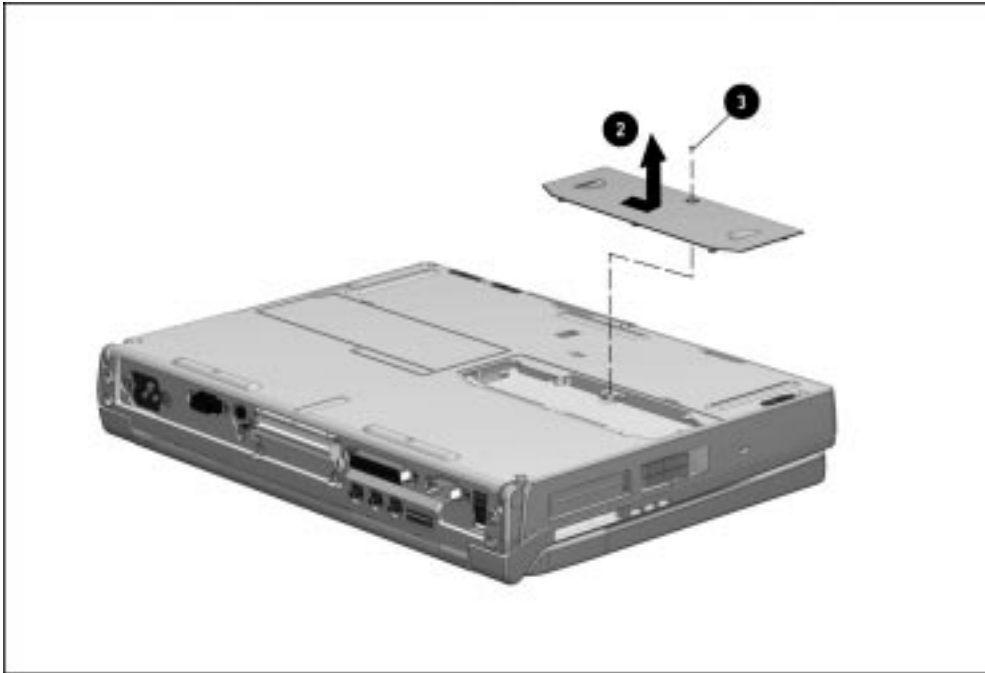

Figure 5-25. Removing the Memory Expansion Slot Cover
4. Remove the screw that secures the memory expansion slot cover to the computer ① (Figure 5-25). A security wrench is needed to remove the screw securing the cover.
5. Slide the cover to the right ② and lift it straight up to remove it.